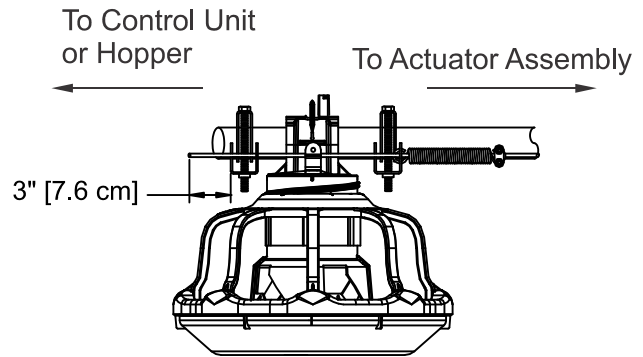

Figure 70. Trim excess actuator wire at control/hopper
8. With the brood in the open position. Go to the control unit or hopper end to trim the extra actuator wire. Leave **3 inches [7.6 cm]** of excess wire past the spring bracket, see figure 70.